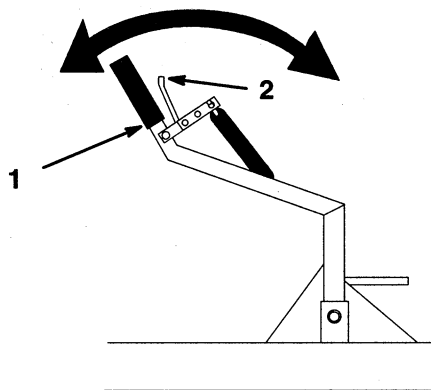

Figure 16
The blade can be indexed side to side, in 5 positions. The direction is controlled by the handle on the right frame (Fig. 16).
1. Squeeze the release lever toward the handle (Fig. 16).